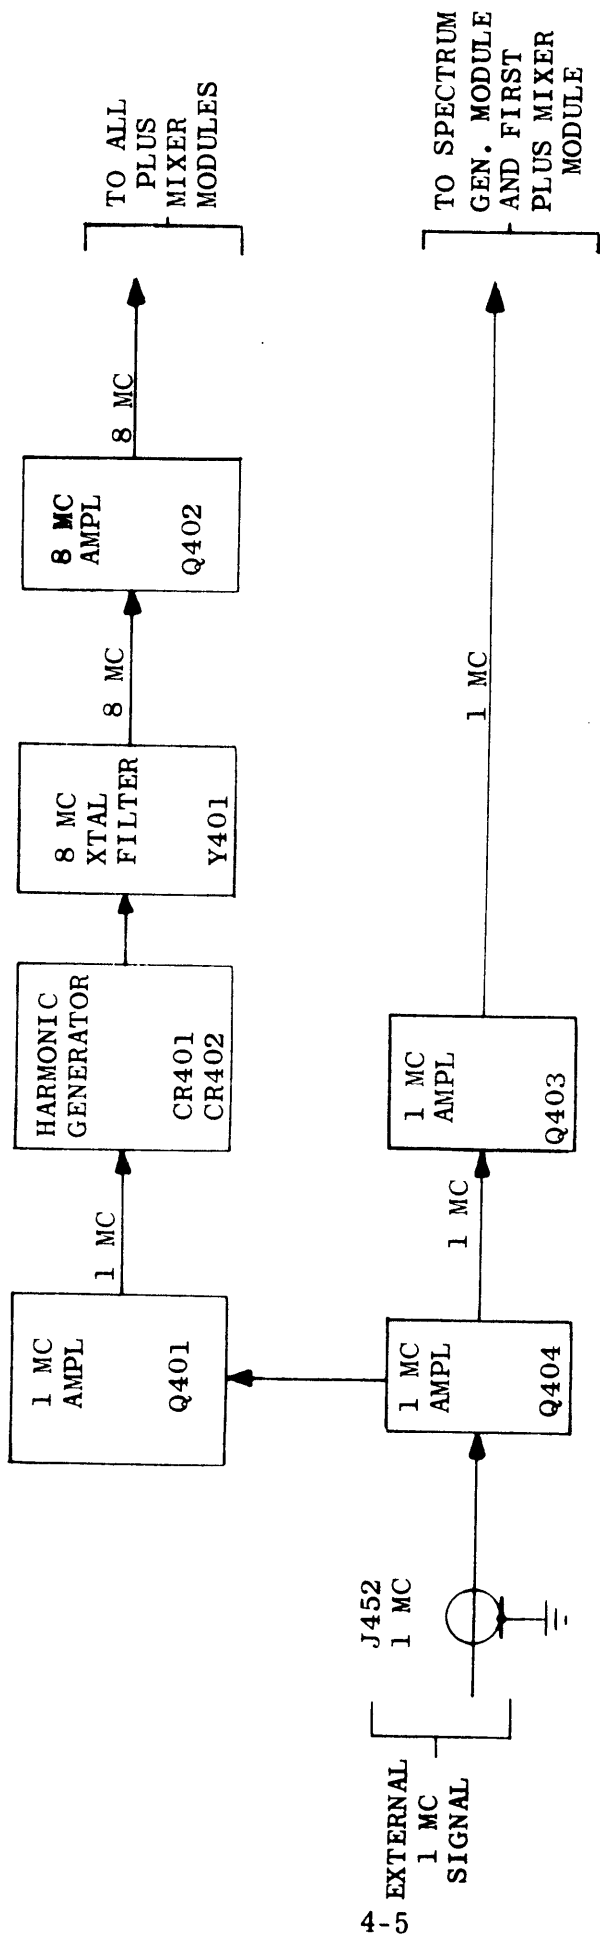

Figure 4-2. 1-8 Megacycle Generator Module. Functional Block Diagram
a. 1-8 MEGACYCLE GENERATOR MODULE. - Refer to figure 4-2.